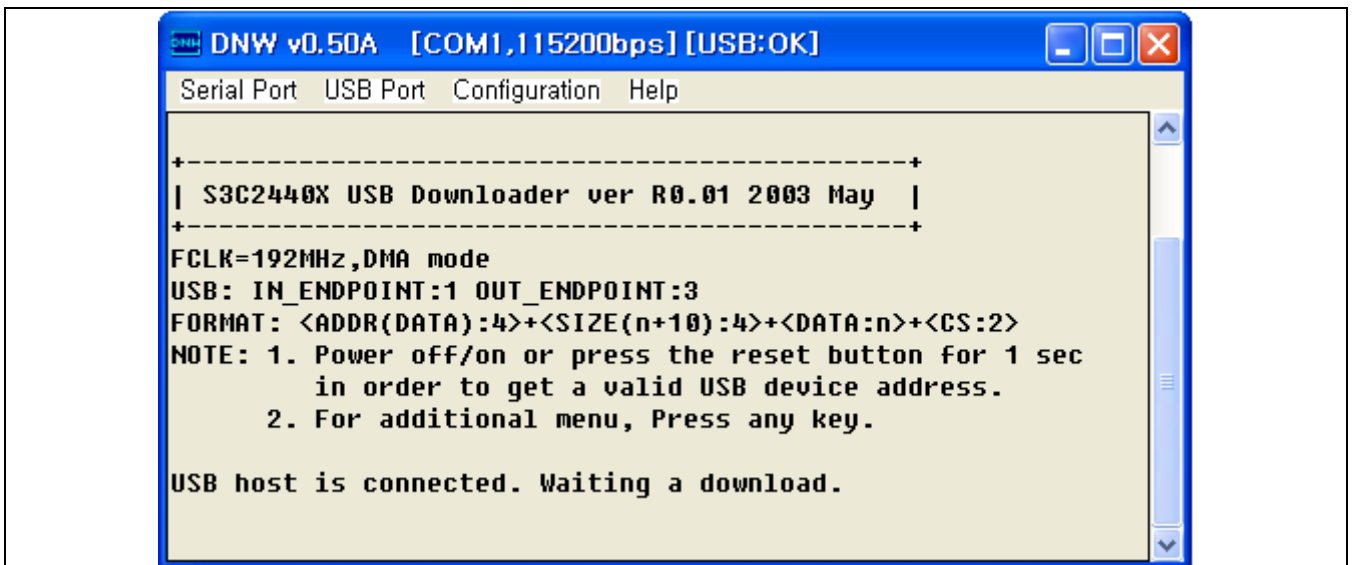

Figure 3-4. DNW Window (after Turning on the SDMK2440)
3. Connect the serial and USB cable from the host PC to SMDK2440 system and turn on the power of SMDK2440 board (See Figure 3-4).